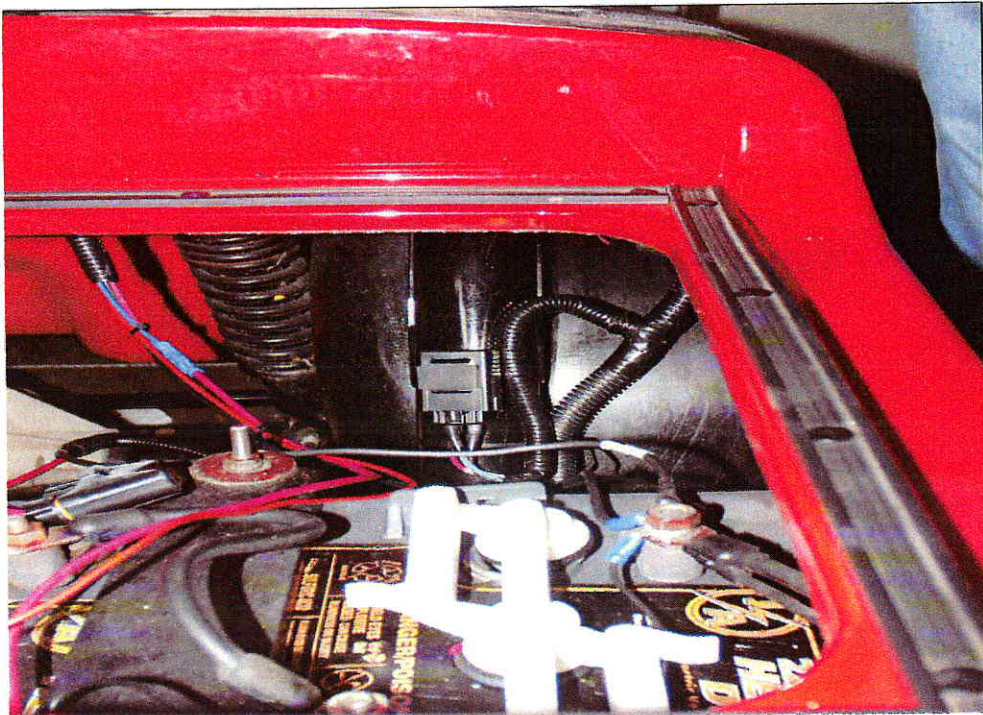

Figure 3
14. In the battery compartment, attach the timer to the vertical frame with velcro that is provided. See Figure 3 below.